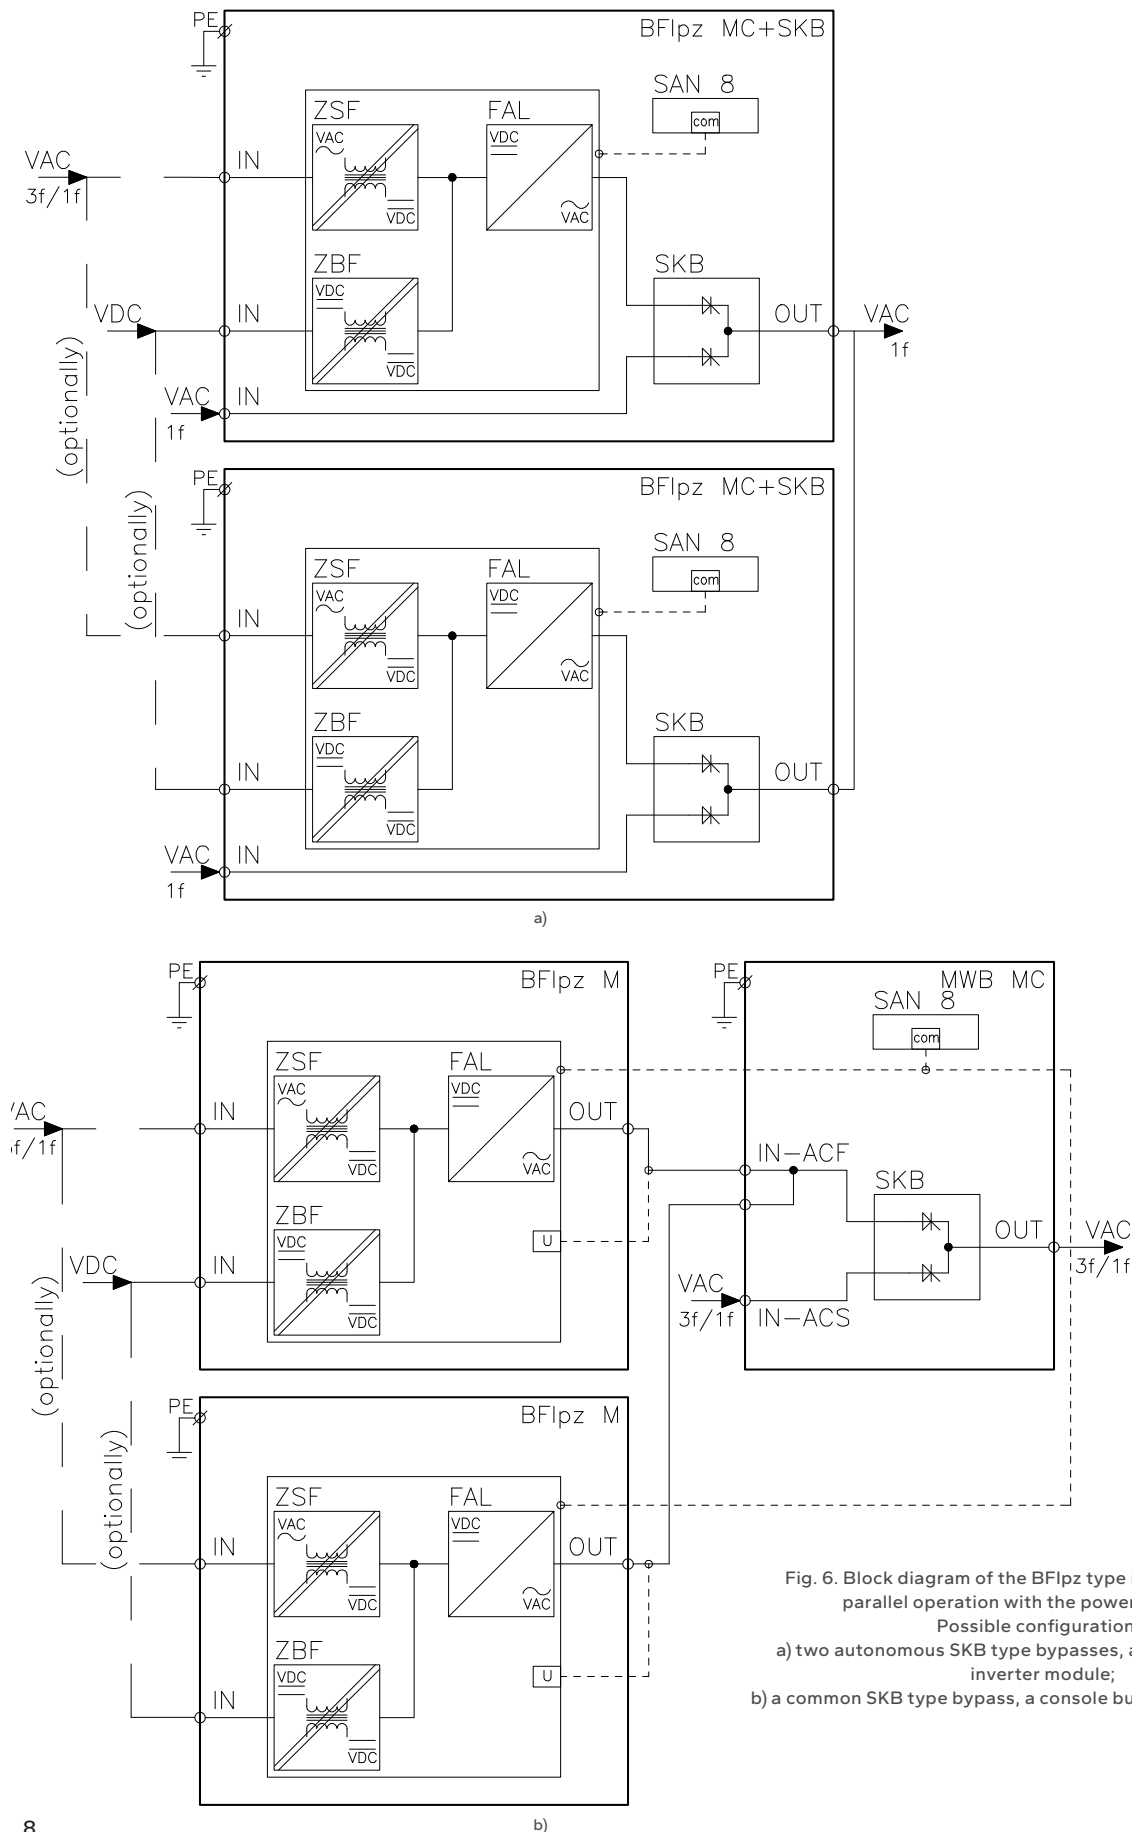
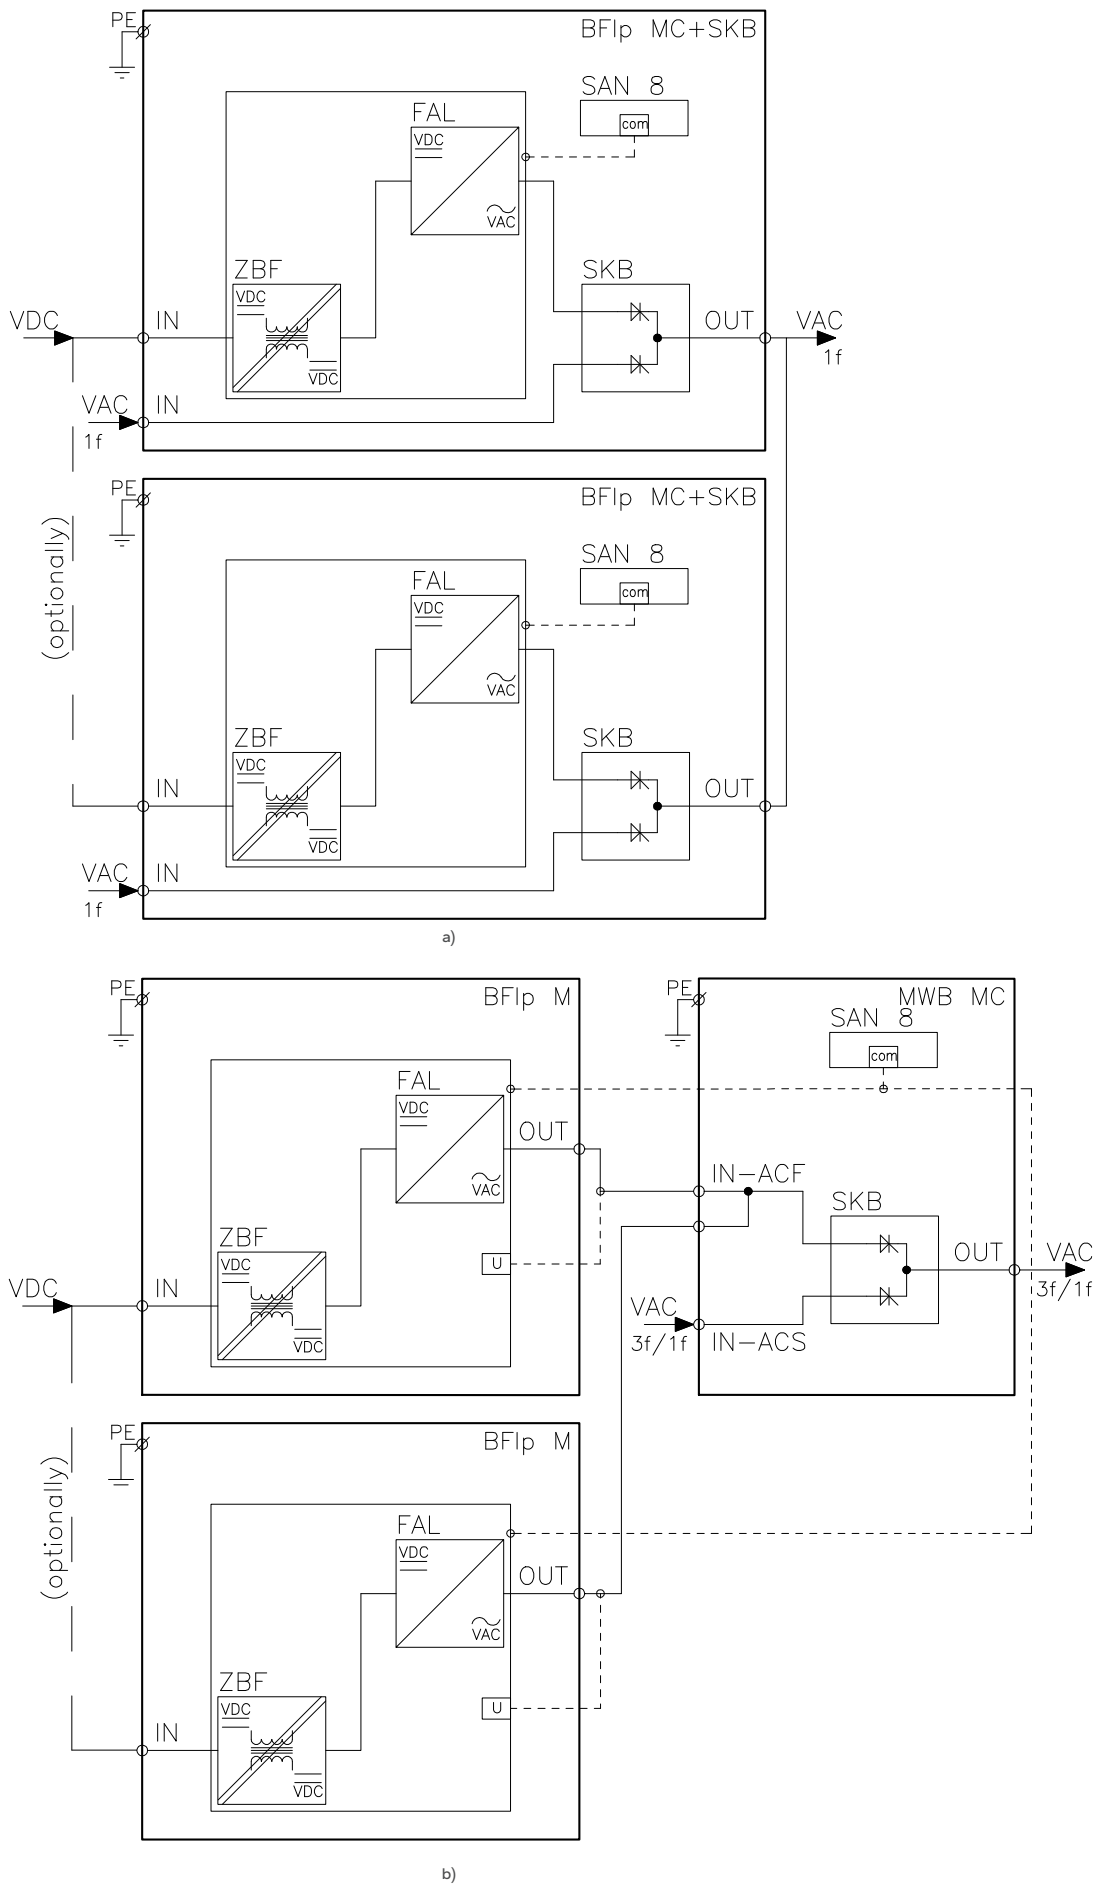

Fig. 6. Block diagram of the BFIpz type inverter module for parallel operation with the power supply unit.
Fig. 7. Block diagram of the BFIp type inverter module for parallel operation. Possible configurations:
1. Two modules – Fig. 6 a), Fig. 7 a):
2. Three modules – Fig. 6 b), Fig. 7 b):
In configuration 1 – the BFIpz+SKB inverter module is supplied by the mains AC voltage, DC voltage, as well as the backup mains AC voltage (the automatic bypass supply voltage – this is a standard solution used to increase the reliability of the system) (Fig. 6 a). Moreover, the BFIP+SKB inverter module is supplied from DC voltage and a backup mains AC voltage (Fig. 7 a).
In configuration 2 – the BFIpz inverter module is supplied by voltage of the mains AC voltage and DC voltage – Fig. 6 b), while the BFIP inverter module is supplied from DC voltage (Fig. 7 b). The MWB module is supplied by voltage of the AC backup mains (the automatic bypass's supply voltage – this is a standard solution used to increase the system's reliability), as well as inverters output voltages (Fig. 6 b, Fig. 7 b).